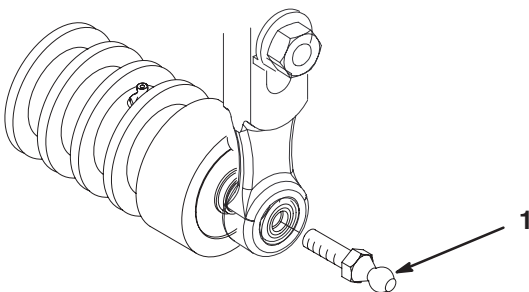

Figure 16
- F. Install the motor mount to the left end of the cutting unit with the (2) allen head screws previously removed. Torque screws to 12–15 ft-lbs. (16–20 N·m).
5. Thread a ball stud into each end of the cutting unit front roller (Fig. 16).